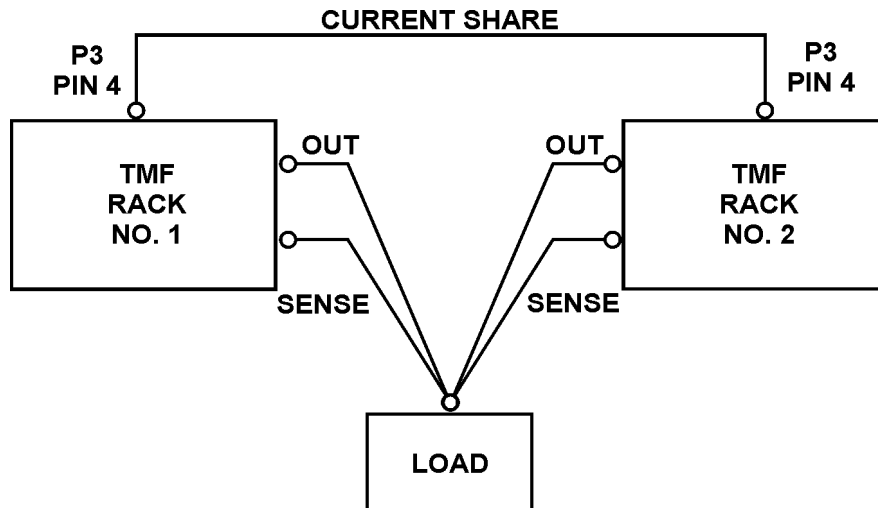

Figure 8. Parallel Connection of TMF Racks.
14.3 Multiple Parallel Rack Operation. Multiple racks can also be operated in parallel by interconnecting their current share terminals (P3 Pin 4). The total power can be expanded by several times. In this case N+1 redundant operation is achieved by reserving one module of the total for redundancy. For example, if two full 19-inch racks are employed with a total of six modules, then 5+1 redundancy is achieved and the full load must be able to be carried by the output of five modules. In such applications each set of remote sense wires must be separately connected to the point of load. See Figure 8 for a simplified illustration of two TMF racks connected in parallel.